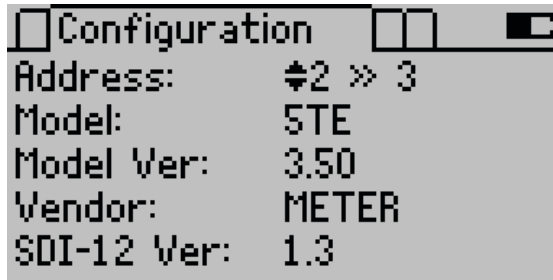

Figure 8 SDI-12 Address screen
4. Use the **UP** and **DOWN** arrows to select the new address from “0” (default) to 1–9, a–z, or A–Z (Figure 8).